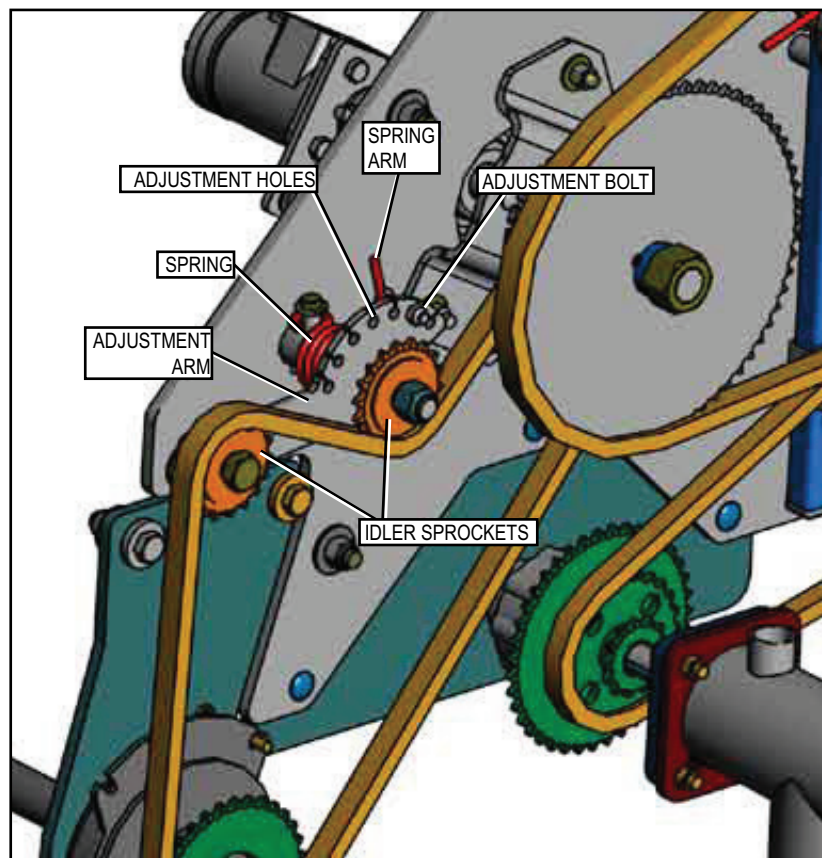

Figure 11.49 - Chain Tensioner
2. Loosen the locknut on the mount bolt and slide the whole assembly up or down in the adjustment slot, until there is very little to no slack in the drive chain (There should be zero pressure on the chain). Refer to *Figure 11.49*.
4. Determine and mark the position of the spring arm in relation to the idler arm. Refer to *Figure 11.49*.